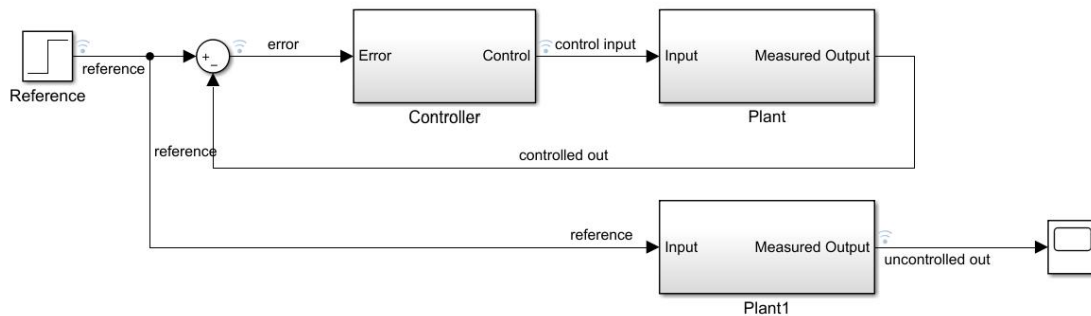

Figure 11: The schema for comparison responses
- Build a schema to compare outputs with and without a controller. The result is at figure 11.